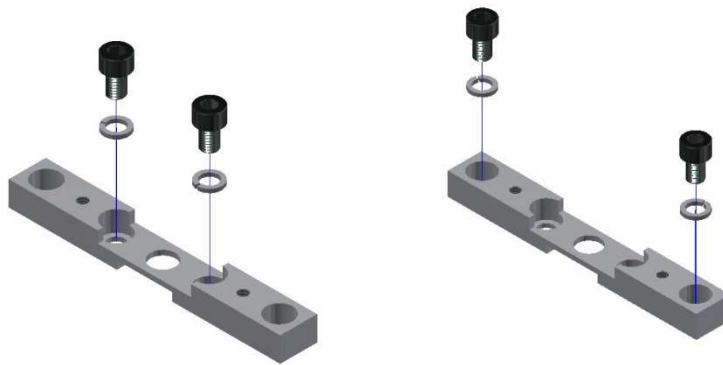

Figure 2: Mounting Bracket to Burner (option 1 left, option 2 right)
1. Fasten the mounting bracket to the burner using a 6mm hex key, the (2) M8 lock washers, and the (2) M8 x 12mm socket cap screws according to options 1 or 2 shown in Figure 2. Use Table 1 to determine which mounting option to use.